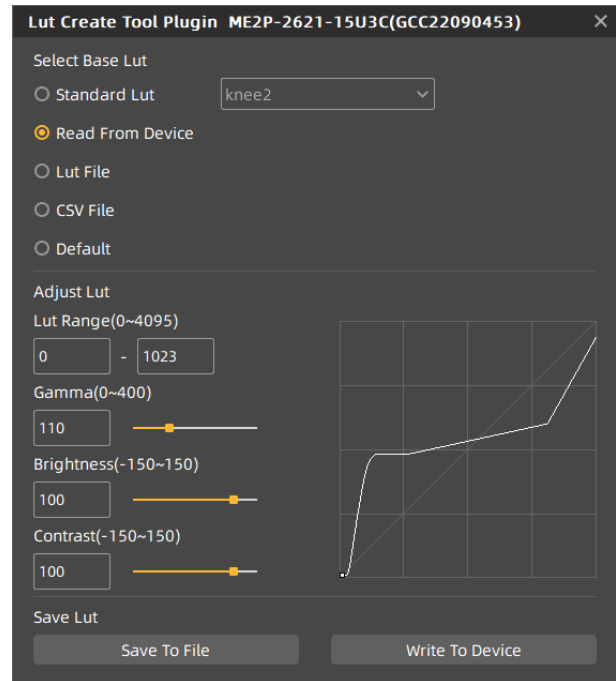

Figure 9-11 Select "Read From Device "
- 3) When selecting "Read From Device", the polyline graph and image effects of the MERCURY2 and MARS-3140-3GM/C-P, MARS-2621-4GM-P ETR, MARS-2621-4GM-P NIR ETR, MARS-2622-4GM-P ETR, MARS-2622-4GM-P NIR ETR, MARS-033-262GM-P-TN-SWIR, MARS-138-95GM-P-TN-SWIR models are updated to the lookup table in the device. When selecting the Standard LUT or Default and selecting "Write To Device", then when reading, the written parameters will be updated to the GUI. For example, Standard LUT selects knee2, LUT Range input 0-1023, Gamma input 110, brightness input 100, Contrast input 100, and the GUI after selecting "Write To Device" is shown in Figure 9-11.